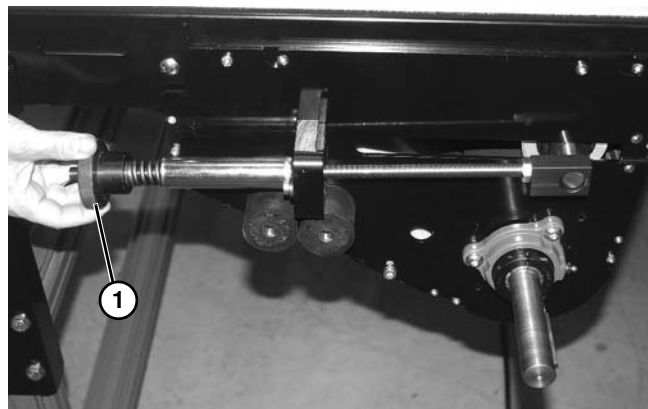

Figure 150
2. Loosen tension on drive belt by rotating tensioning knob (**Figure 150, item 1**) counterclockwise on both sides of conveyor.